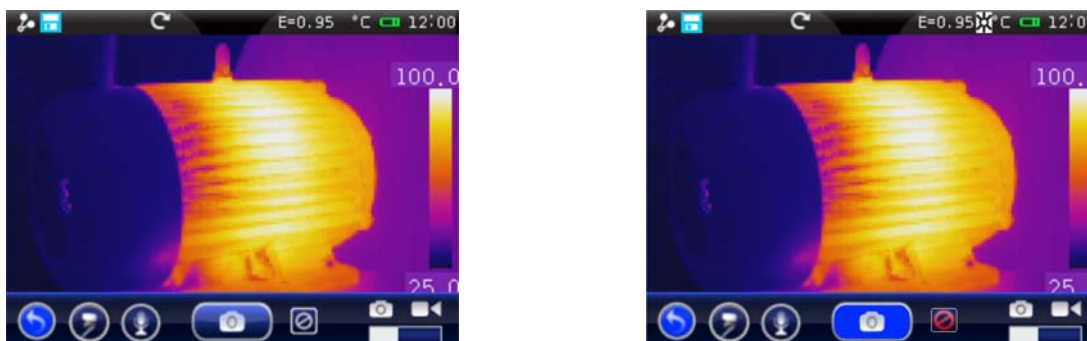

Fig. 60: Freezing the image on the display and saving
2. Press the **T** (Trigger) key to freeze an IR image on the display. The symbol “” appears in the upper part of the display, the icon “” appears in the lower part of the display and the icon “” becomes fully light blue “” (see Fig. 60 – right side). The same result is obtained by touching the icon “” in the general menu and by touching the icon “” (see Fig. 60 – left side). Touch the icon “” and then the **T** key to exit the Hold function.